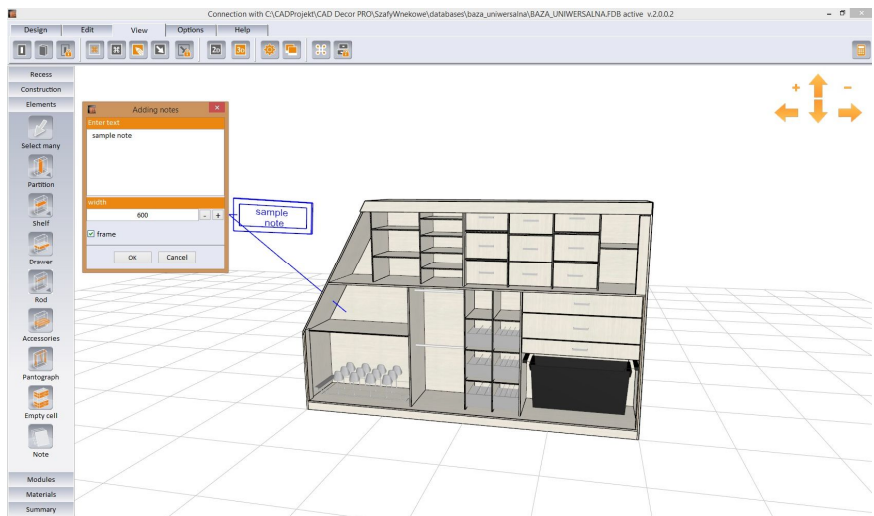

Fig. 35 - Adding notes to the model
- confirm it with the **'OK'** button (Fig. 35).